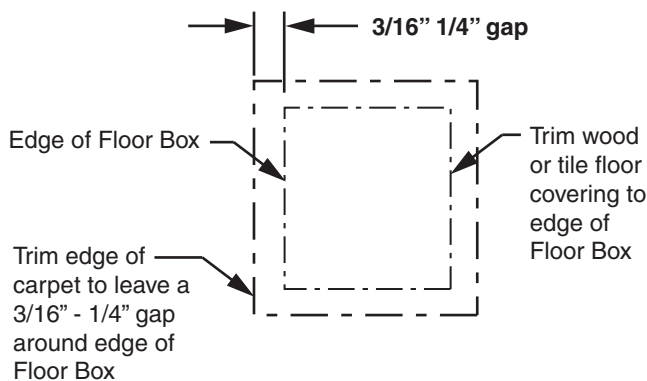

Figure 2
- 1) Trim Floor covering to dimension of Figure 2.